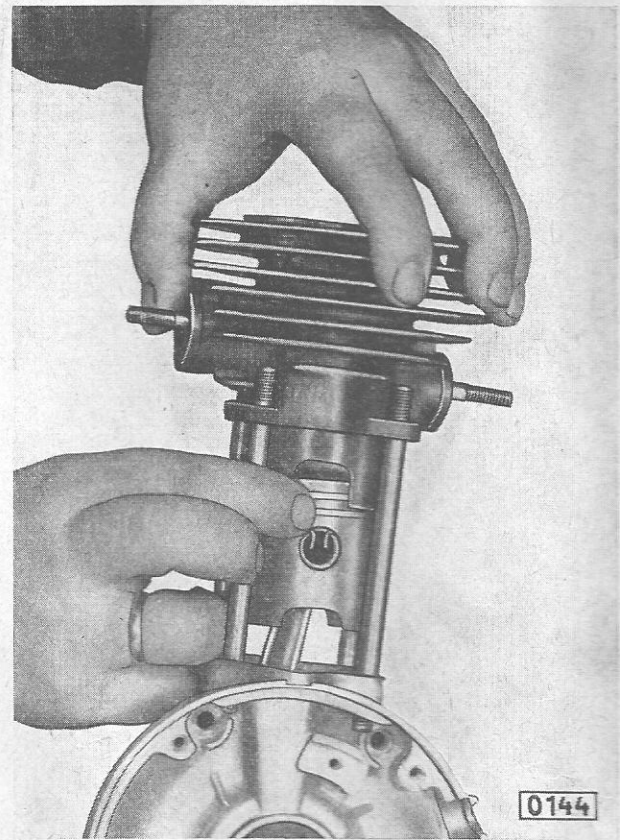

Fig. 17: Mounting the cylinder
4. Lubricate cylinder barrel and mount cylinder. Take care not to damage the piston rings (fig. 17).